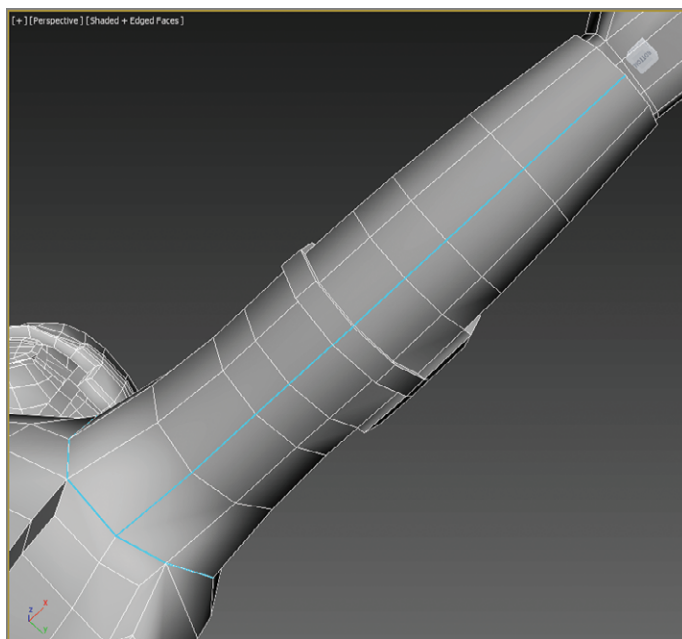

FIGURE 11.4 Select the intersections under the arm.
9. Select the bottommost edge intersection on the underarm and continue selecting edge intersections all the way to the middle point of the wrist, as shown in Figure 11.4.